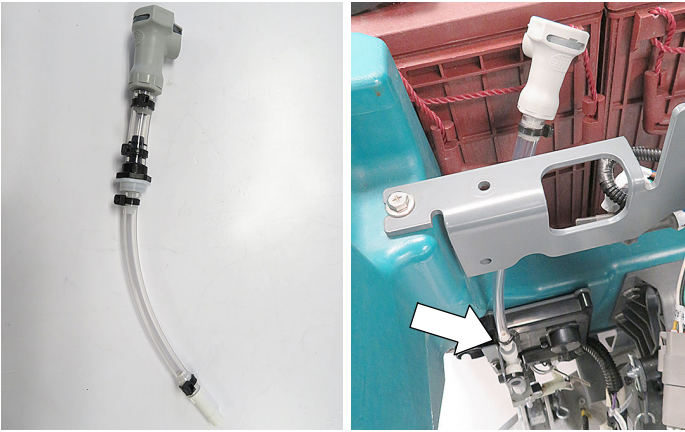

Fig. 5
7. Plug the ABW hose assembly into the ABW module assembly as shown (Figure 5).